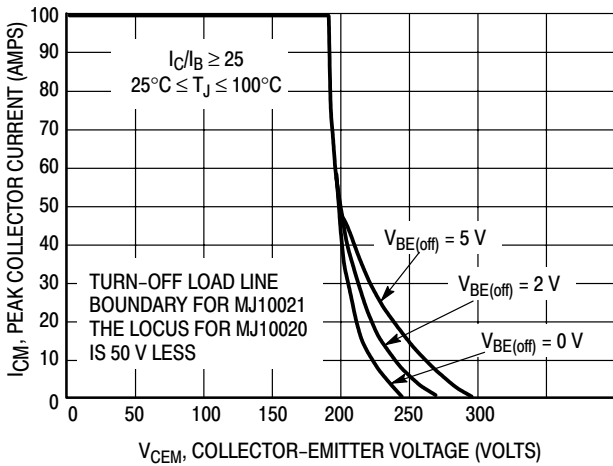

Figure 14. Maximum RBSOA, Reverse Bias Safe Operating Area
*Adjust $-V$ such that $V_{BE(off)} = 5 \text{ V}$ except as required for RBSOA (Figure 14).
For Inductive loads, high voltage and high current must be sustained simultaneously during turn-off, in most cases, with the base to emitter junction reverse biased. Under these conditions the collector voltage must be held to a safe level at or below a specific value of collector current. This can be accomplished by several means such as active clamping, RC snubbing, load line shaping, etc. The safe level for these devices is specified as Reverse Bias Safe Operating Area and represents the voltage-current condition allowable during reverse biased turn-off. This rating is verified under clamped conditions so that the device is never subjected to an avalanche mode. Figure 14 gives the RBSOA characteristics.